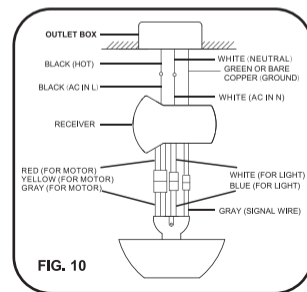

FIG. 10
Step 3. Motor to receiver wires electrical connections: Connect the **4P-4P** for motor/ **2P-2P** for light/ **Gray-gray** for signal from motor to receiver. (Fig. 10)